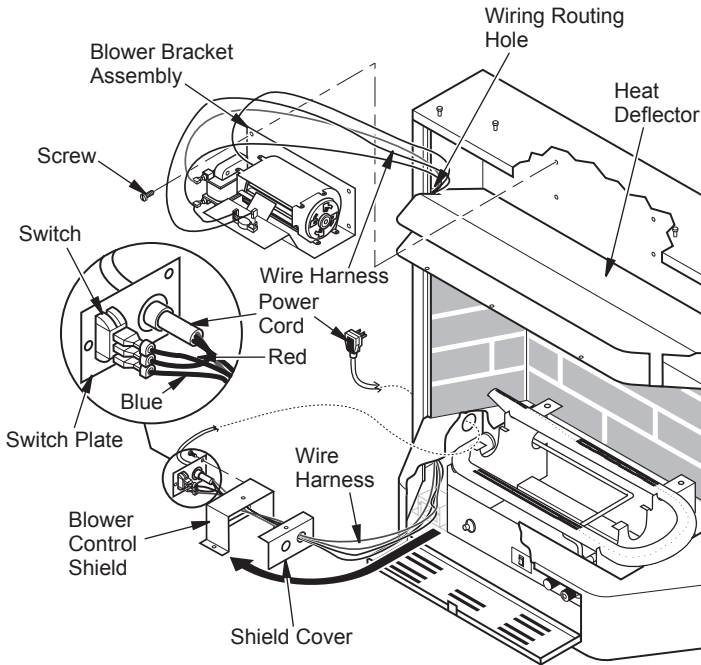

Figure 16 - Installing Blower Bracket Assembly
4. Note the wire locations on back of AUTO/OFF/ON switch. Carefully remove red wire from the AUTO terminal and blue wire from the ON terminal. Black wire can remain on the middle or OFF terminal (see Figure 16, page 13).
6. In top of the heater cabinet, locate the four mounting holes on the outer casing. Align these four holes with those on the blower bracket assembly to the outer casing with 4 - #10 screws provided (see Figure 16, page 13).
7. Route the wire harness through the hole to the left side of heat deflector. Pull wire harness through lower opening to the left of the blower control shield. (see Figure 16, page 13).
8. Insert the 4 wire harness into one of the round holes in the rear of the blower control shield and through the rectangular hole in the front of shield (see Figure 16).
ure 17). Route power cord out of the cabinet by inserting it through the bushing on the outer casing (see Figure 16). Plug fan kit into 120-Volt grounded power supply and test operation. **Note:** When switch is in the AUTO position, the fan will start after the heater has run for a few moments. The fan will continue to run for several moments after the heater has been turned off. When switch is in the ON position, the fan will run until turned off. Reinstall hood assembly and close lower louver door.